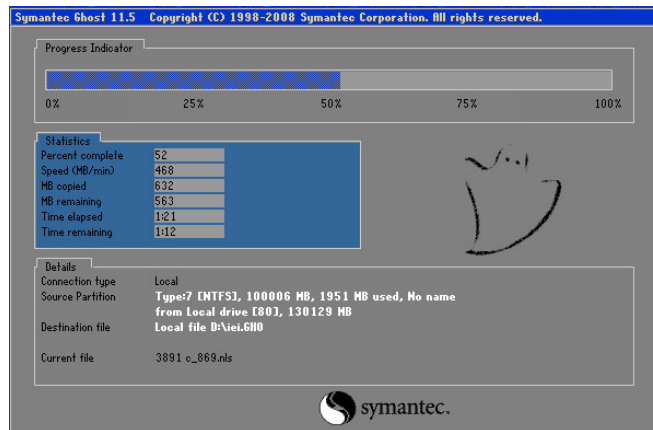

Figure D-27: Image Creation Complete
Step 7: The Symantec Ghost starts to create the factory default image (**Figure D-27**).